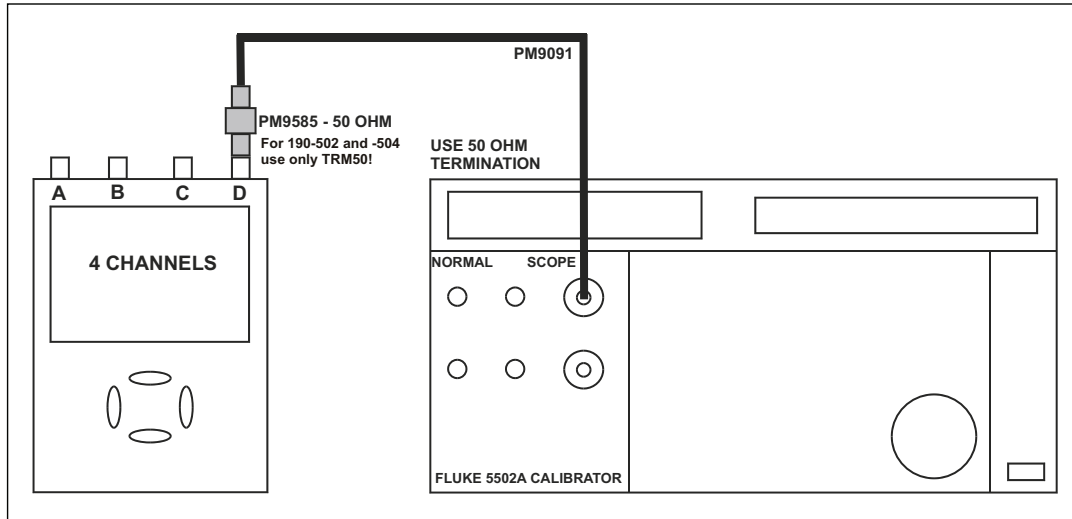

Figure 5-14. 5502A SCOPE Output to Test Tool Input D
2. Connect the Test Tool to the 5502A as shown in Figure 5-14.